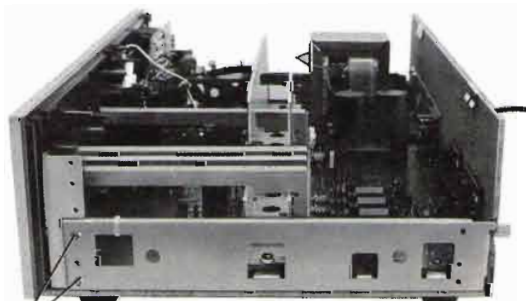

Figure 8
4. Remove four screws (H) ($3\phi \times 8\text{mm}$) of the side panel plate holding the side plate as shown in Figure 8 and 9.